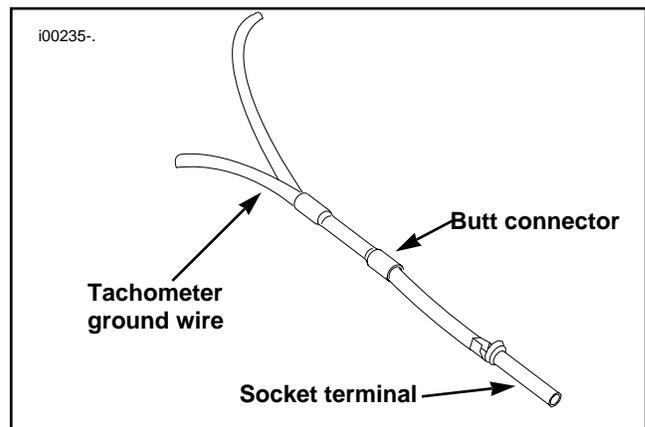

Figure 11. Connecting Tachometer & Speedometer Grounds
2. Strip 3/8 in. insulation from tachometer black ground lead (9).
3. See Figure 11. Using one of the butt connectors from the kit connect the ground leads as shown. Refer to "SEALED BUTT CONNECTORS" in the Service Manual for a complete procedure.